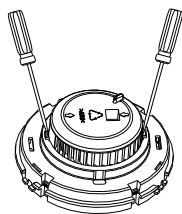

Fig. 10
- a) Open the top cover of detector, and draw out the sensing chamber by slightly lifting its two sides using a straight screwdriver, as shown in Fig. 10.